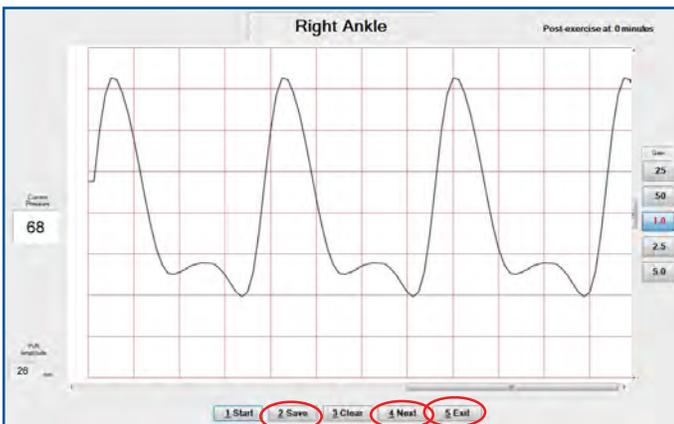

FIGURE 1.37 - Right Ankle - “Save”, “Next”, and “Exit” Buttons
54. To record the amplitude (height measurement of the waveforms), click on the lowest point and then on the highest point of one of the waves. The amplitude will display in the bottom left “PVR Amplitude” box. Record the waveform amplitude and click “Save”, or press 2 (Figure 1.37).
55. Click “Next”, or press 4 (Figure 1.37).
59. Click “Exit” when finished (Figure 1.37). The study can then be signed and sent to the interpreting physician (Reader).